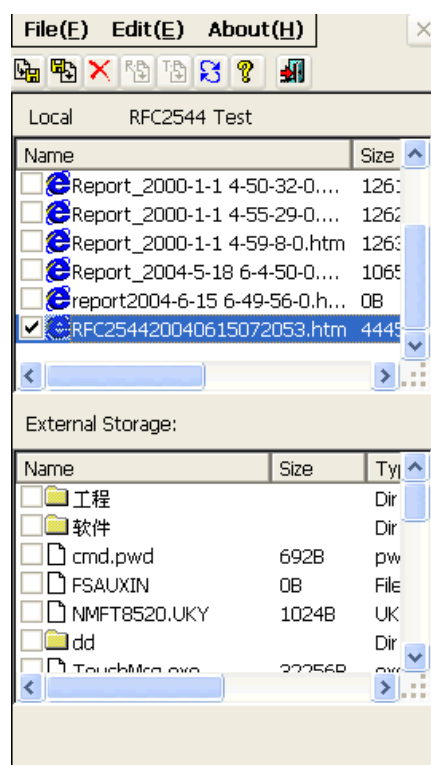

Figure 6.1.7 Data Export
Step2: Click the “Data Manage” icon to enter the Data Export module, as shown in figure 6.1.7.